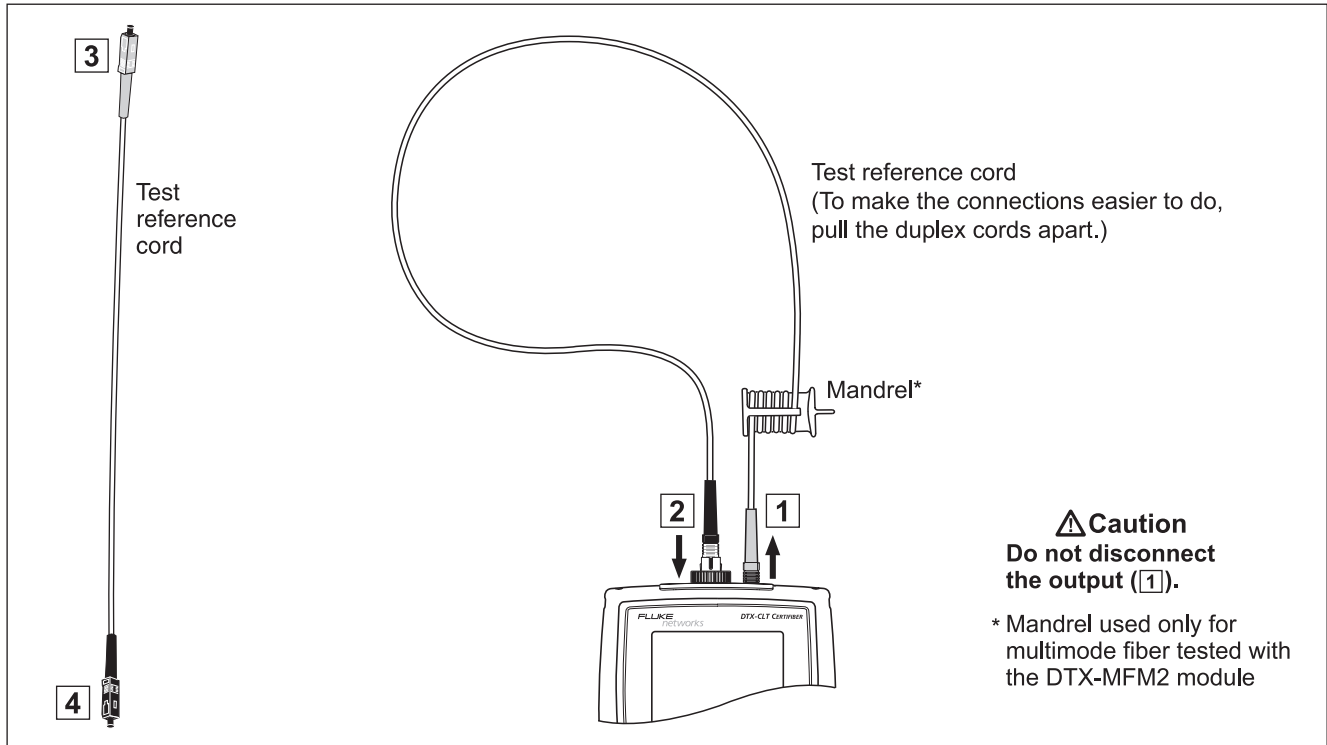

Figure 17. Setting the Reference in Loopback Mode (1 Jumper Method)
- 4 The **Set Reference** screen shows connections for the test method you selected. Figure 17 shows connections for the 1 Jumper method. Clean and inspect the connectors on the tester and test reference cord, connect the tester's INPUT and OUTPUT ports; then press .